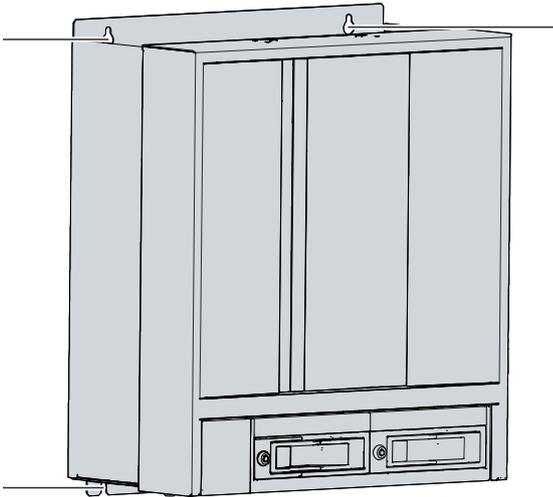

Fig. 19: C6675_positions fastening screws
2. Lift the PC far enough so that the fastening screws slip into the keyholes (see fig. 19).